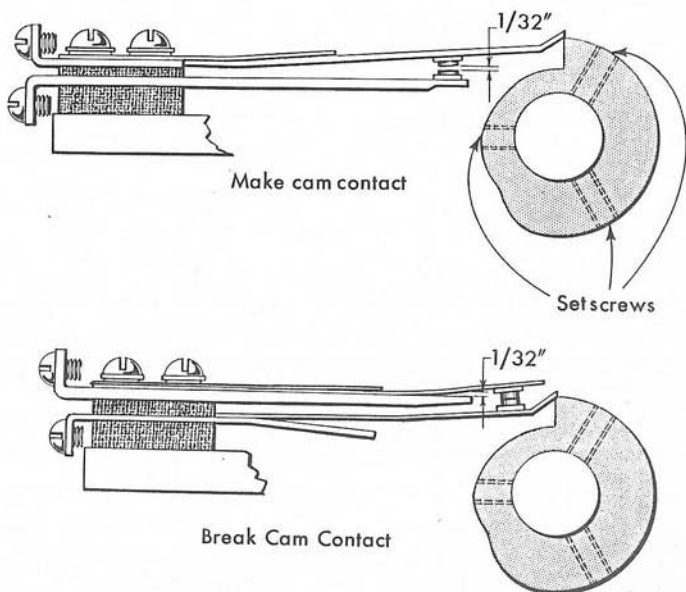

Figure 21
2. Adjust the make contact by bending the non-operating strap for an air gap of $1/32''$ between points when the operating strap is on the high dwell of the cam (Figure 21). The operating strap should have sufficient tension to insure good contact when the points are closed.
3. Adjust the break contact by bending the non-operating contact support for $1/32''$ rise of the non-operating strap off its support when the operating strap is on the high dwell of the cam (Figure 21). When the operating strap drops off the high dwell of the cam, there should be at least $1/16''$ air gap between the points. There should not be too much tension on the operating strap. Too much tension will cause noisy operation and excessive wear on the cams.
4. Adjust the timing of the contacts by loosening the cam setscrews and shifting the cam on the shaft (Figure 21). The timing of the individual contact is obtained from the timing chart which accompanies the machine. Make contacts are timed for the making point (the point at which the contact strap falls off the high dwell of the cam). Break contacts are timed for the proper breaking point, according to the timing chart (the point at which the operating strap falls off the high dwell of the cam).